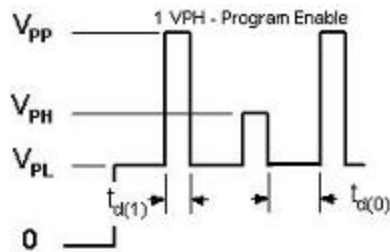

Figure 1. Program Enable Pulse Sequence.
**Switch Point Program Enable.** To program the device, a keying sequence is used to activate / enable the addressing mode as shown in Figure 1. This sequence consisting of a  $V_{PP}$  pulse, one  $V_{PH}$  pulse, and a  $V_{PP}$  pulse with no supply interruptions, is designed to prevent the device from being programmed accidentally (e.g., as a result of noise on the supply line).